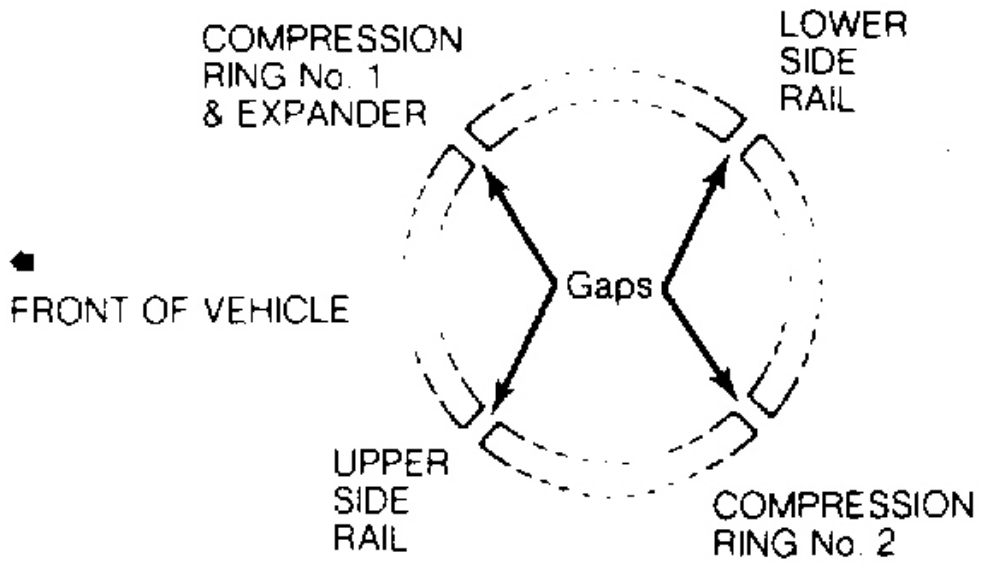

Fig. 7: Arranging Piston Ring Gaps
2. Position rings on piston with "T" or "N" marks facing upward. Position ring end gaps correctly. See **Fig. 7**.